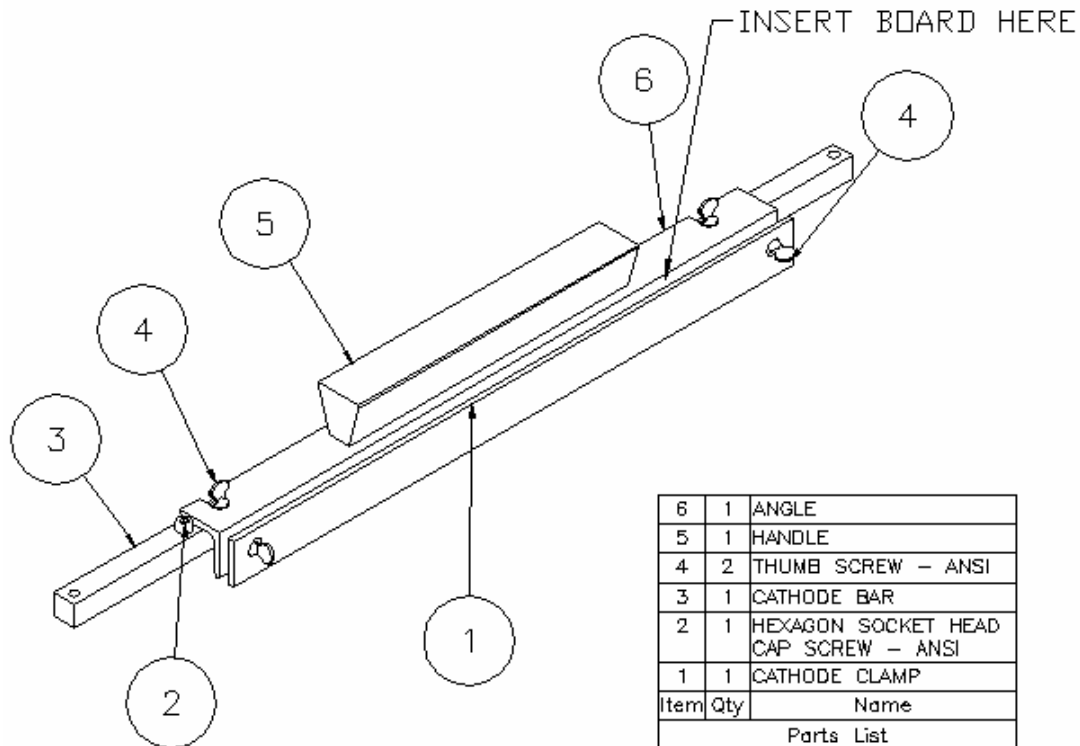

Figure 10: Handle Assembly (QP-1812) mounted on cathode bar.
2. Remove Handle Assembly from Cathode bar by loosening thumbscrews (do not remove thumbscrews) and sliding Handle Assembly out. See Figure 10.
3. Loosen thumbscrews (do not remove thumbscrews) on Cathode Clamp and insert panel between Cathode Clamp (item 1) and Angle (item 6), retighten thumbscrews.
5. Reinstall Handle Assembly, with panel attached, onto Cathode Bar and retighten thumbscrews. See Figure 10.
12. Remove Handle Assembly from Cathode bar by loosening thumbscrews and sliding Handle Assembly out. See Figure 10. Hold the panel over the plating tank until the dripping slows. Loosen thumbscrews on Cathode Clamp and remove the plated panel from between Cathode Clamp and Angle.